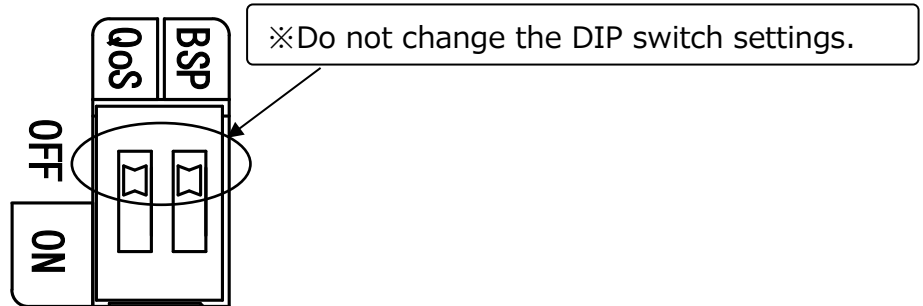

Figure 5.1 DIP switch settings
- (1) Connect the Ethernet cable to one of the five Ethernet ports. (Order not specified)
- (2) Confirm that the connector connected to each port is accurately mounted.
- (3) Make sure that the DIP switch has the settings shown in Figure 5.1. (Both pins are OFF)